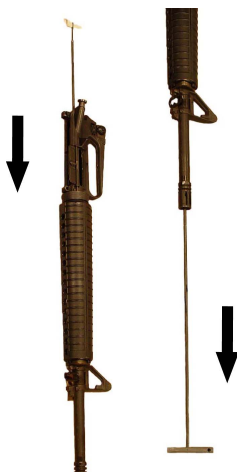

Figure 3-53. Swabbing Weapon
- (4) Point the muzzle down. Holding the upper receiver in one hand, insert the end of the rod without the bore brush into the chamber. Allow the rod to fall straight through the bore. Approximately 2-3 inches will be sticking out of the muzzle.
- (5) Attach the handle section of the cleaning rod to the end of rod sticking out of the muzzle.
- (6) Pull the bore brush through the bore and out the muzzle. The rod will twist as it is pulled through. Refer to Figure 3-53.